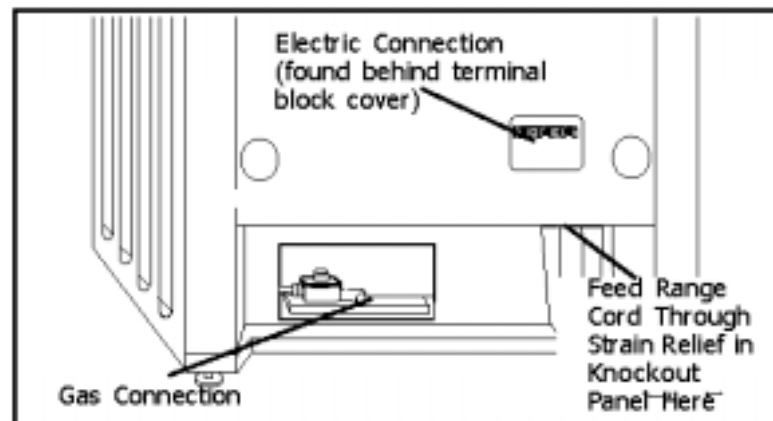

Figure 4
The power supply shall be connected to the range terminal block compartment located near the bottom of the back panel (See Figure 4, at right). It is accessible by removing the terminal block cover.
Place strain relief in knockout below terminal block (See Figure 4 below). Feed range cord through hole and strain relief up to terminal block. Allow for slack in the cord between the strain relief and terminal block. Once cord length/ slack has been adjusted, attach strain relief per instructions included with strain relief. Connect wiring as described below and on next page.
Assemble LP Cooktop Orifices. Place in cooktop exactly as layed out in the cover of this manual (also shown in Figure 3). If the orifices become separated from the cover, placement can be determined by matching the number stamped into the orifice with the placement specifications displayed in Figure 4. Place the new orifice into the socket then insert each orifice into its respective threaded hole in the jet holder. Tighten until orifice stops turning. **DO NOT OVER TIGHTEN.**
3. Insert flat head screwdriver into shaft and turn bypass screw clockwise until it stops turning (See Figure 4). **DO NOT OVER TIGHTEN.** Replace knobs, springs and bezels.